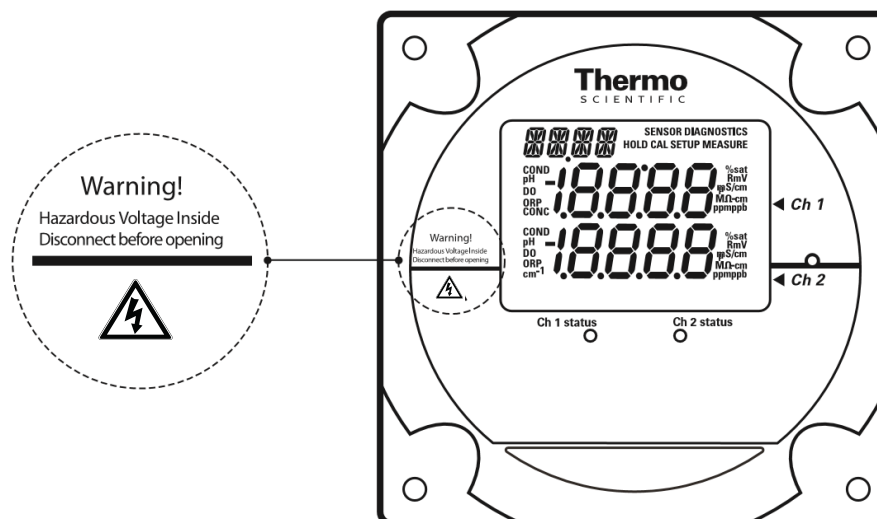

Figure 5: Faceplate
- Faceplate – Refer to Figure 5.